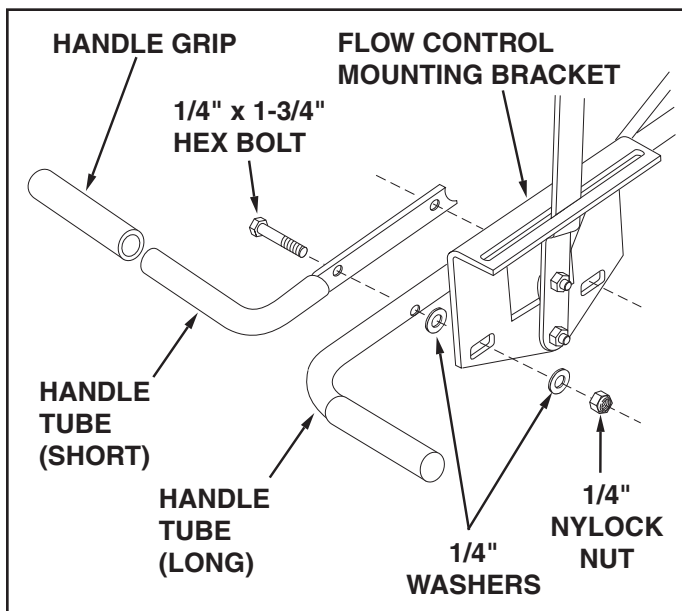

FIGURE 10
20. Place a handle grip on each handle. See figure 10.